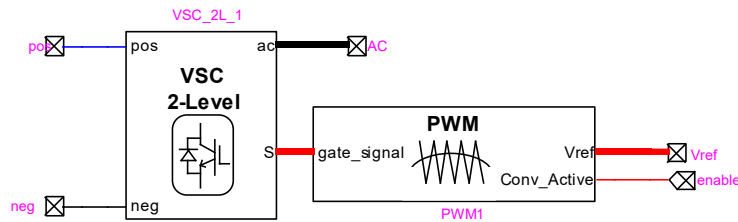

Figure 3 DC-AC converter block inside the inverter hardware model (detailed model version)
3.2.1 DC-AC converter model: detailed model (DM) and average value model (AVM)
The EMTF diagram of the detailed model (DM) is shown in Figure 3. It includes a two-level voltage source converter (VSC) block and a pulse width modulation (PWM) block.